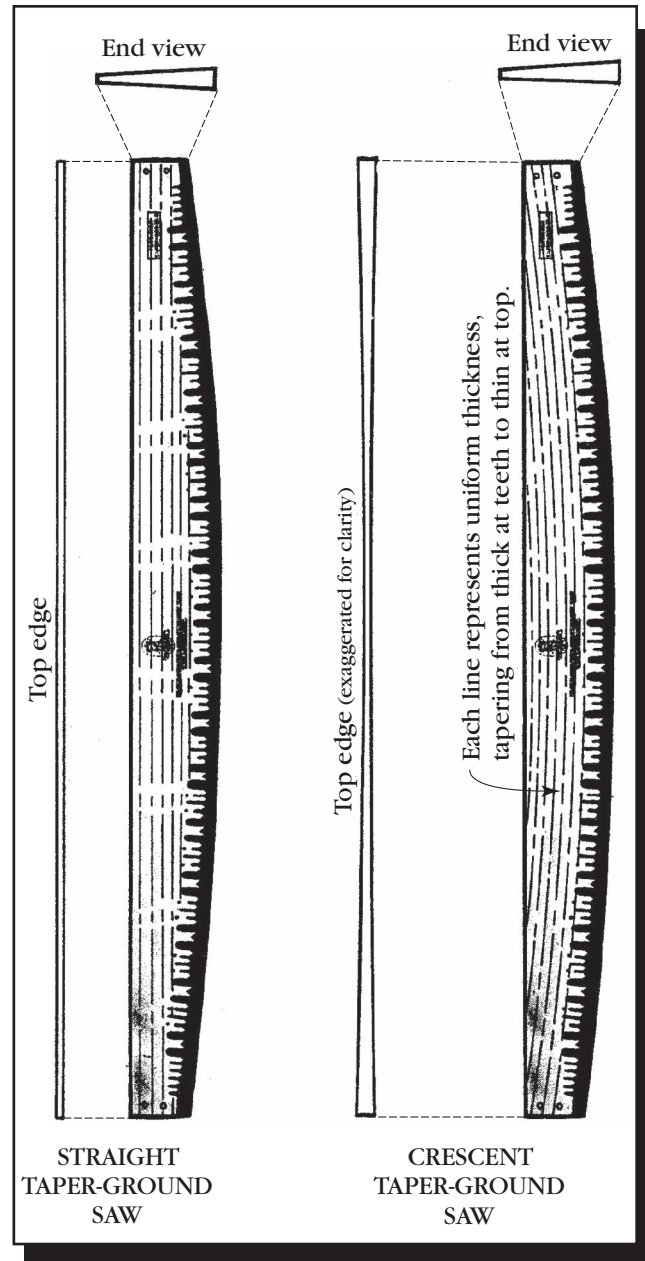

Figure 5-5—Comparison of straight taper-ground and crescent taper-ground saws. Neither is manufactured today. Today's saws are flat ground.
**Crescent Taper Ground**—The best vintage saws were crescent taper ground (figure 5-5). Early saw manufacturing companies used different trade names for crescent taper-ground saws. The names included: crescent ground (Simonds), improved ground (Disston), and segment ground (Atkins).